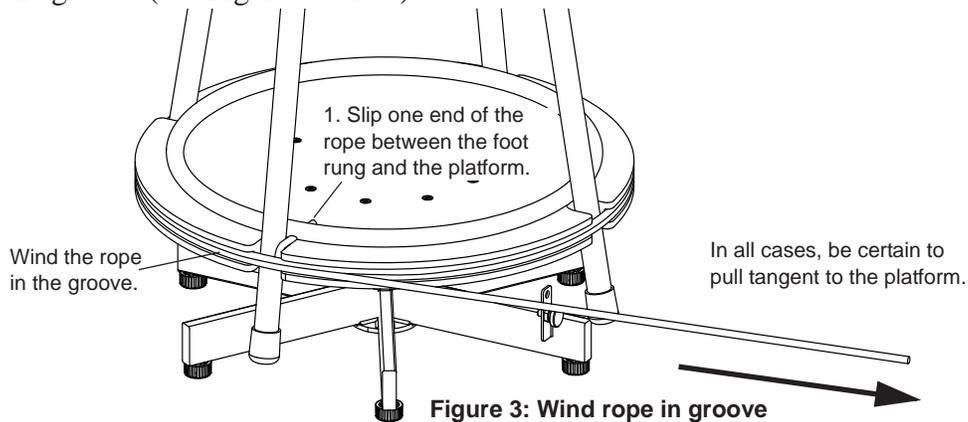

Figure 2: Rotating the Stool
4. To rotate, place feet on the foot rung or extend them out from the stool (See Figure 2).